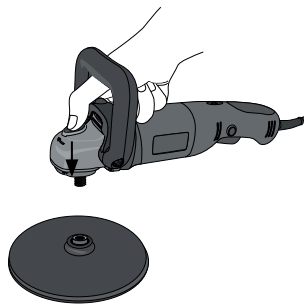

figure 2
- Push the disk lock button to disassemble the disk (figure 2).